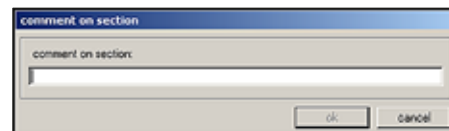

Fig. 41
- 1 **New** Clicking on this button opens the **Comment on section** dialog box (→ Fig. 41).